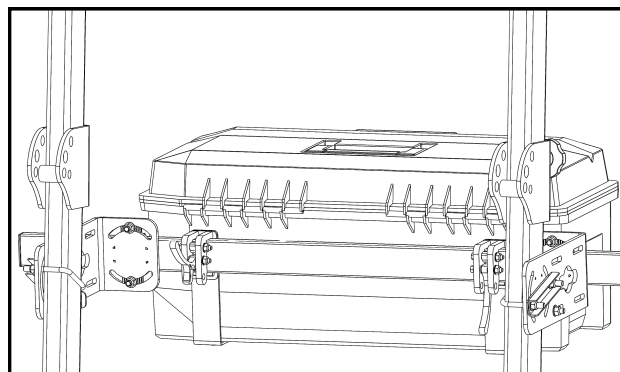

Fig. 1 (example of attaching a tool box)
1. Figure 1 shows an example of a toolbox installed on a Tool Bar (shown on a tractor 2-Post ROPS).